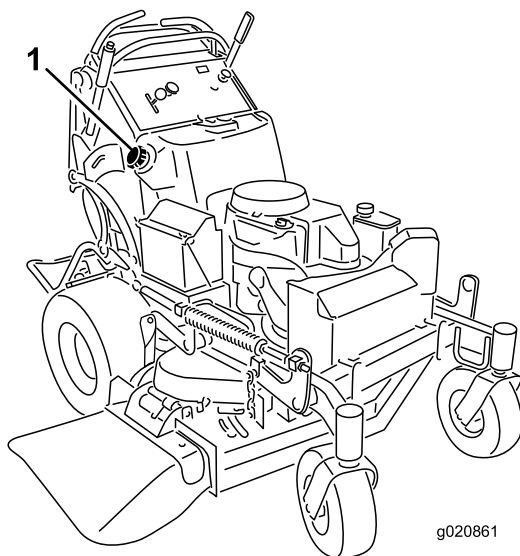

Figure 49
5. Using the syphon pump, drain the fuel into a clean gas can (Figure 49).